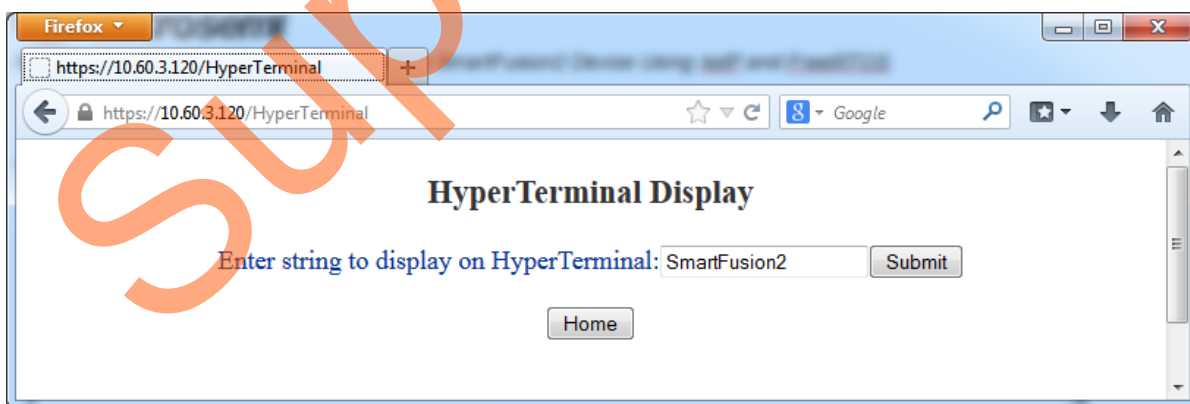

Figure 19 • HyperTerminal Display Page
1. Click **HyperTerminal Display** on the main menu. Figure 19 shows a webpage that gives an option to enter a string value.